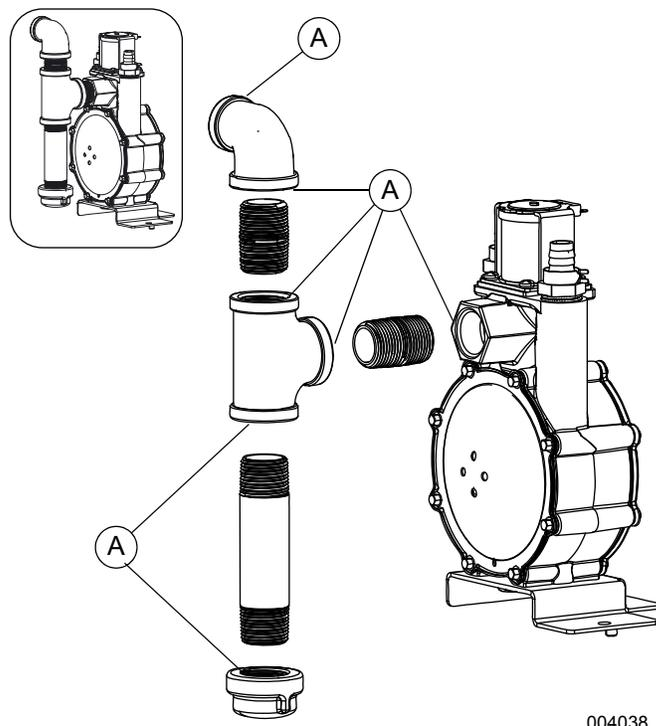

Figure 4-8. Connection Points to Leak Check
See Figure 4-8. Perform a final fuel system leak test after generator installation. The test will identify possible leaks at all connection points (A).